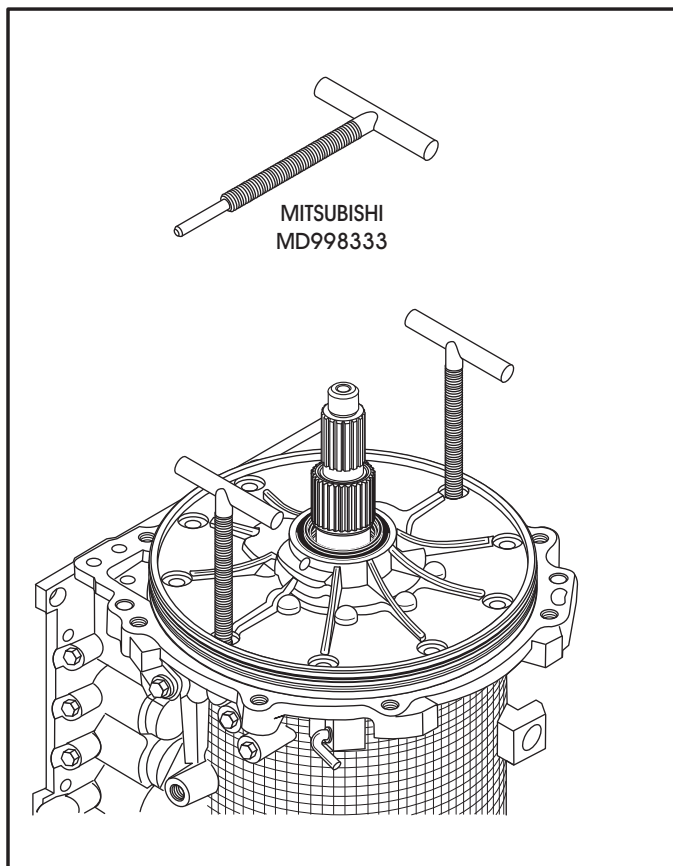

Figure 45
23. Break the oil pump assembly loose from case using the tools shown in Figure 45.